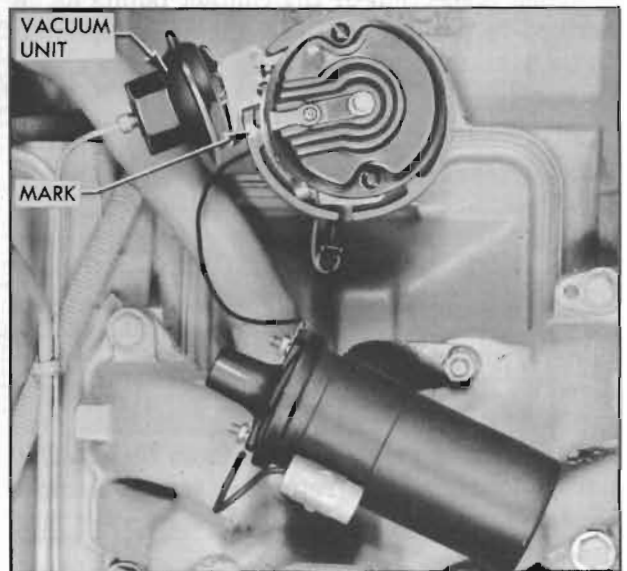

Figure 10-43—Installing Distributor in Engine
2. Install distributor in engine with rotor in position to fire No. 1 cylinder and with vacuum control in position to connect vacuum pipe. See figure 10-43. Install distributor clamp and bolt
2. Make a mark on distributor base in line with rotor. Then carefully note the location of the vacuum unit in relation to engine so that the distributor can be replaced in the exact same position after it is serviced. See figure 10-43. **CAUTION:** *If engine is turned over while distributor is out, complete ignition timing procedure must be followed (par. 10-41).*